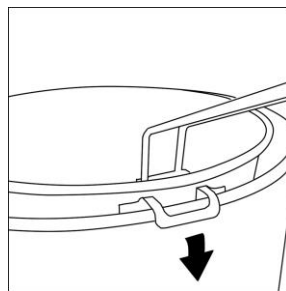

Figure 4
- Mount the frying basket by hanging the bracket onto the base (See Figure 4).